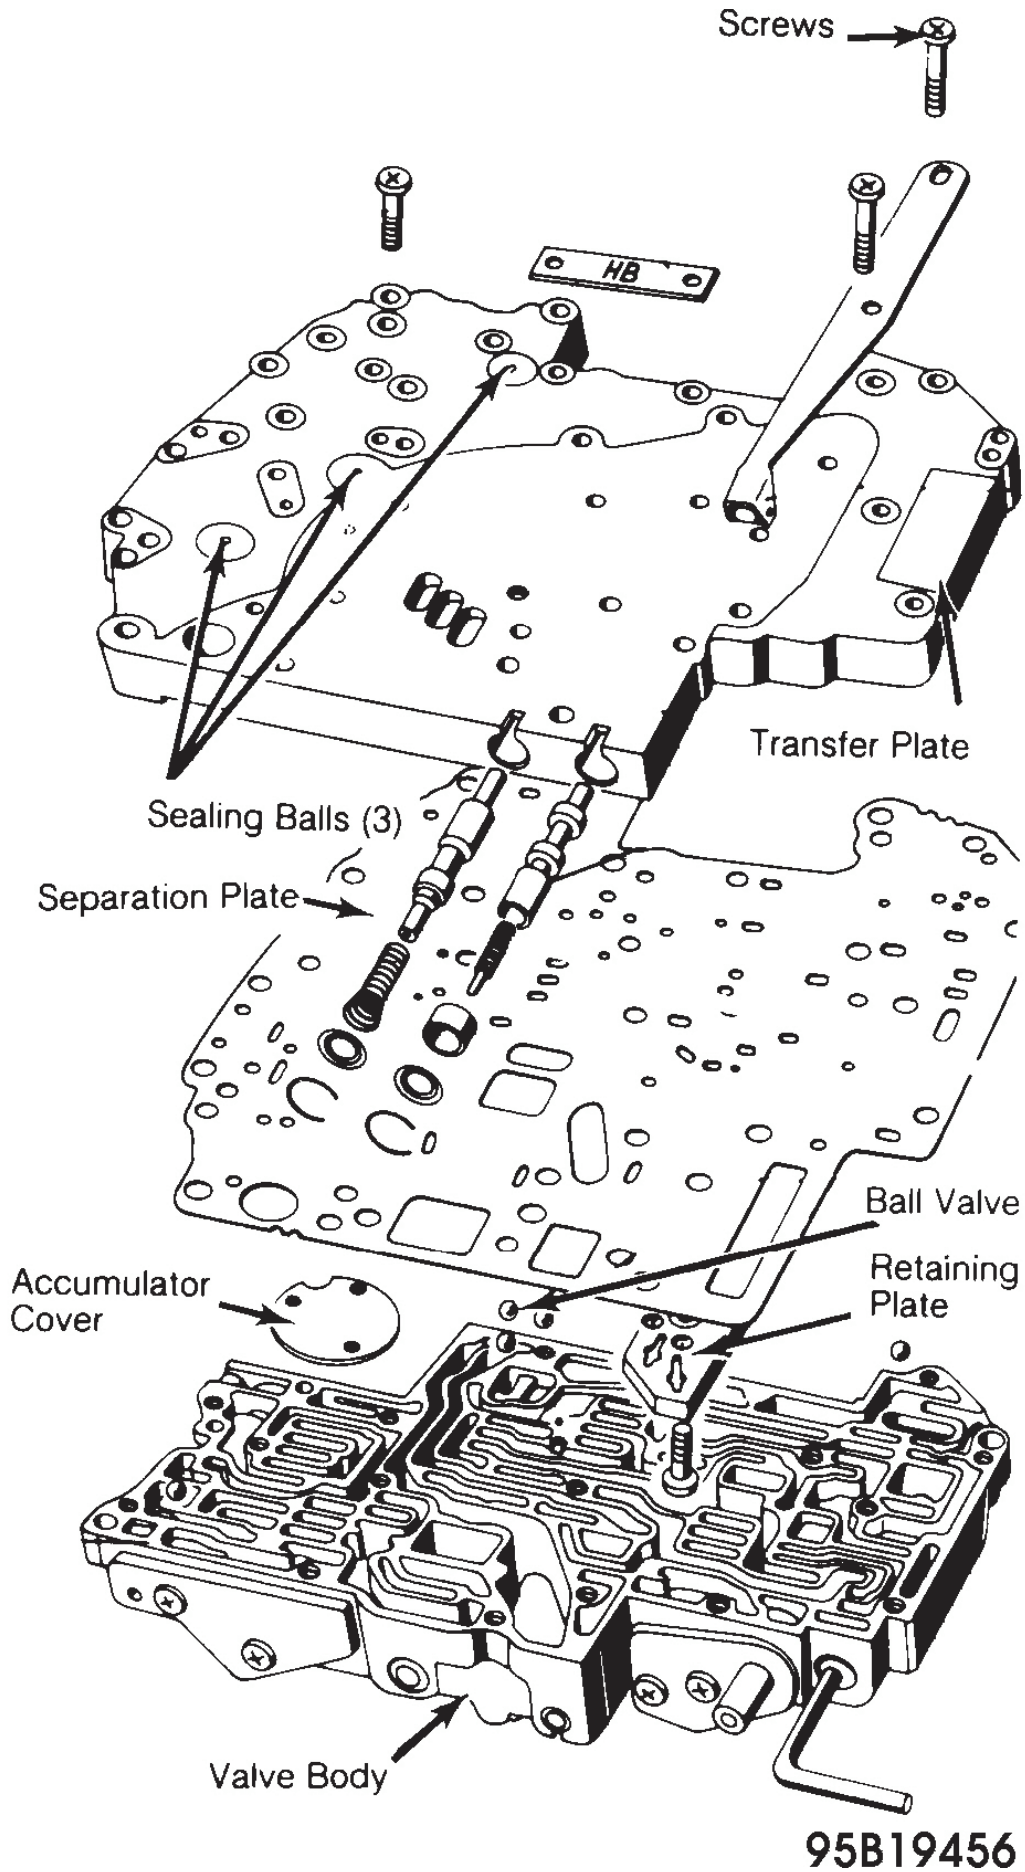

Fig. 10: Exploded View Of Transfer Plate & Valve Body Assembly
4. Note locations and sizes, and remove ball valves and springs from main valve body. See **Fig. 10**. In valve body "FG", there are five 6-mm ball valves and one 3 mm ball valve.